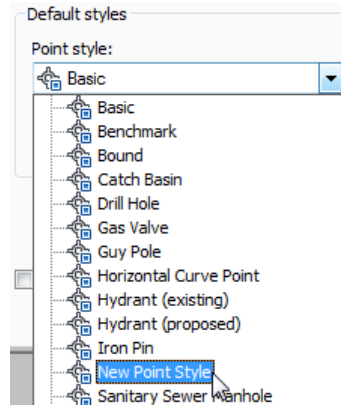

Figure 2-63 Selecting the New Point Style option from the Point style drop-down list
- In the **Information** tab, select the **New Point Style** option from the **Point style** drop-down list in the **Default styles** area, as shown in Figure 2-63.